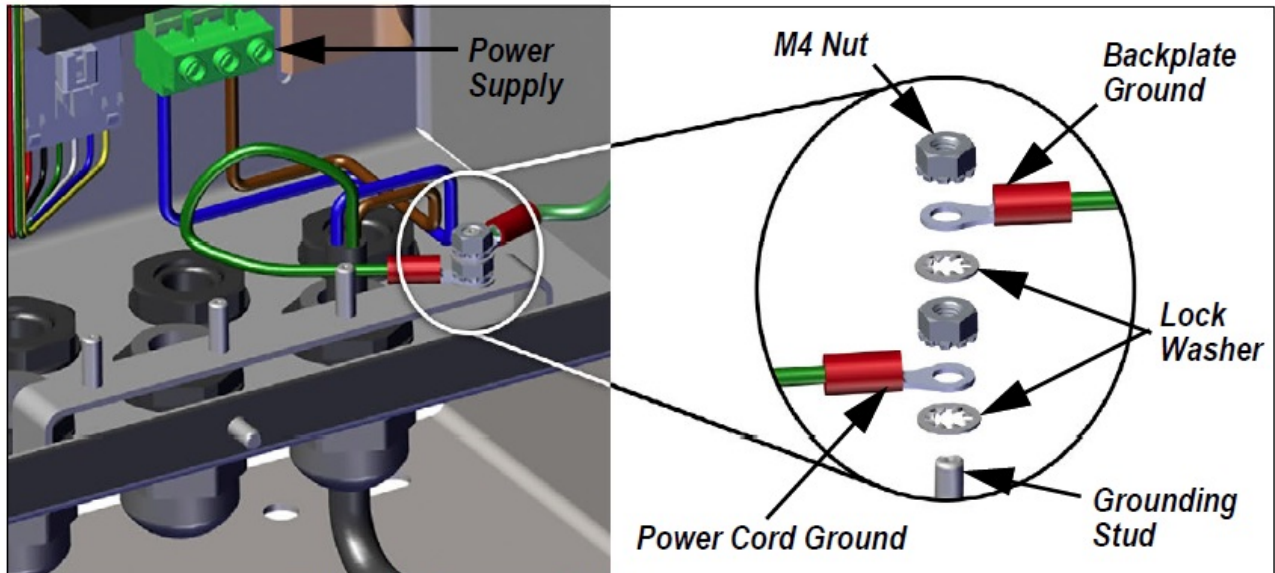

Figure 2-8. Connect DC Wiring
1. Run DC power cable (not included) through the cord grip (Figure 2-8).
2. One wire will be terminated (grounded) at a stud near the cord grip using the proper grounding stack. The backplate ground is already attached to a stud. Remove it so that the power cord ground can be on the bottom of the stack as represented in Figure 2-8. Torque nuts to 10 in-lb (1.13 N-m).
3. Run the other two wires toward the back of the enclosure and connect them to the three pin plug (included in the parts bag) that connects into the power supply board as shown in Figure 2-8 and Table 2-3.